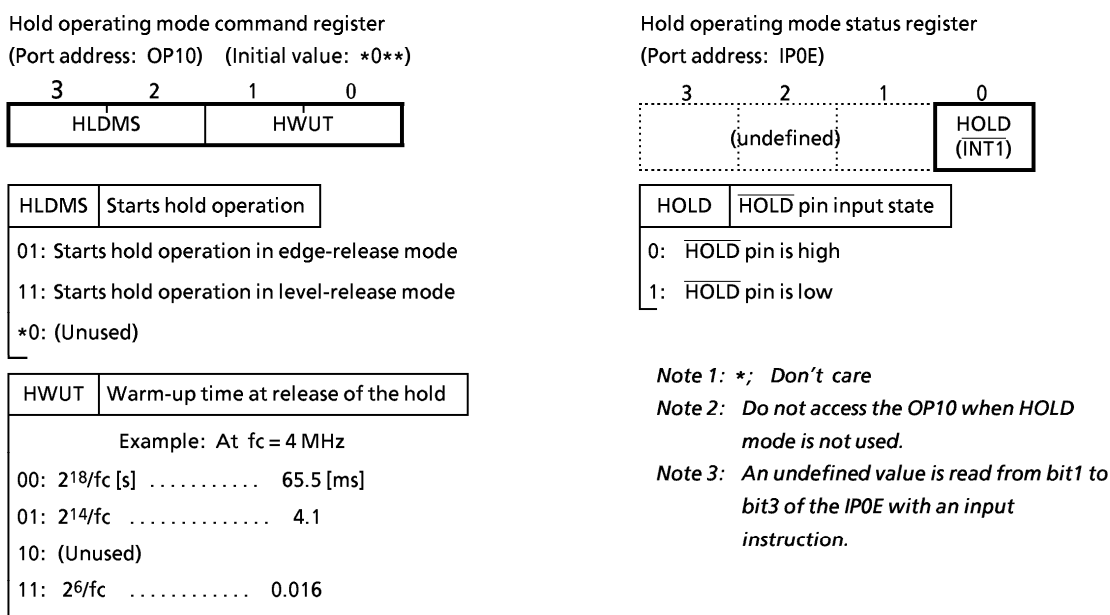

Figure 2-18. Hold Operating Mode Command Register/Status Register
- ① The oscillator starts
- ② Warm-up is performed to acquire the time for stabilizing oscillation. During the warm-up, the internal operations are all stopped. One of three warm-up times can be selected by program depending on the characteristics of the oscillator used.
- ③ When the warm-up time has passed, an ordinary operation restarts from the instruction next to the instruction which starts the hold operation.
- \* The warm-up time is obtained by dividing the basic clock by the interval timer, so that, if the frequency at releasing the hold operation is unstable, the warm-up time shown in Figure 2-18 includes an error. Therefore, the warm-up time must be handled as an approximate value. The hold operation is also released by setting the  $\overline{\text{RESET}}$  pin to the low level. In this case, the normal reset operation follows immediately.